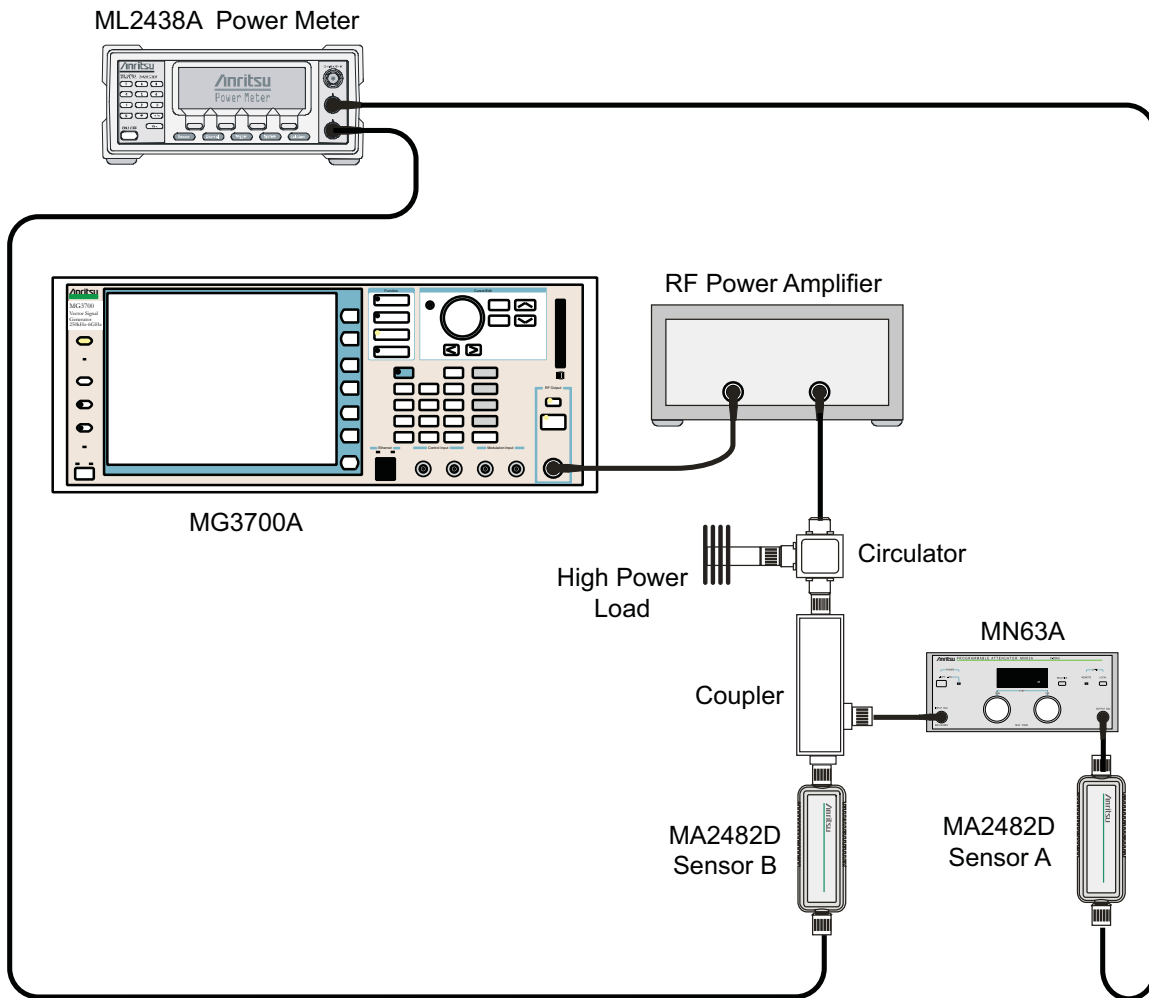

Figure 4-8. WCDMA Signal Analyzer Option Verification (Setup 1)
2. Connect the MG3700A, RF power amplifier, attenuator, power meter, and sensors as shown in Figure 4-8.
4. Press the **On/Off** key to turn on the MS271xE and wait until the measurement display appears. Then press the **Shift** key and press the **Mode** (9) key to activate the mode selection menu.
6. Press the **Shift** key, the **Preset** (1) key, and then the Preset submenu key.